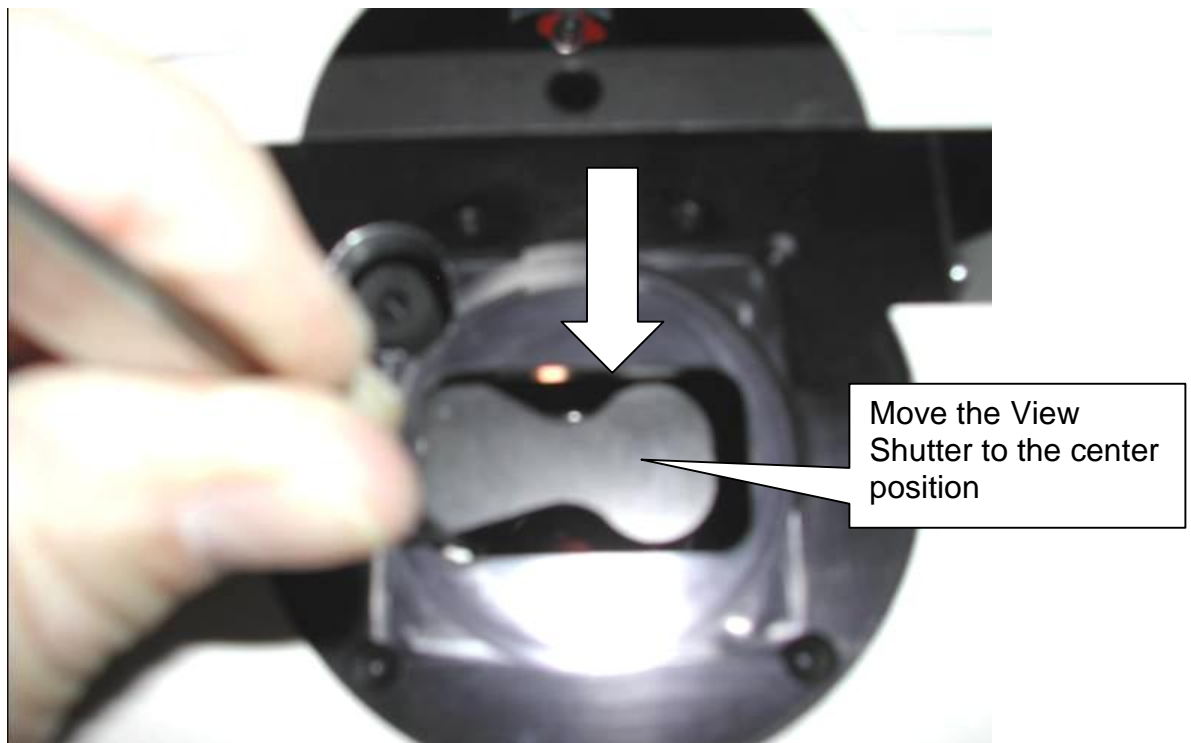

Figure 6
- J Remove the bumper by first moving the view shutter vane to the middle- **Figure 6**